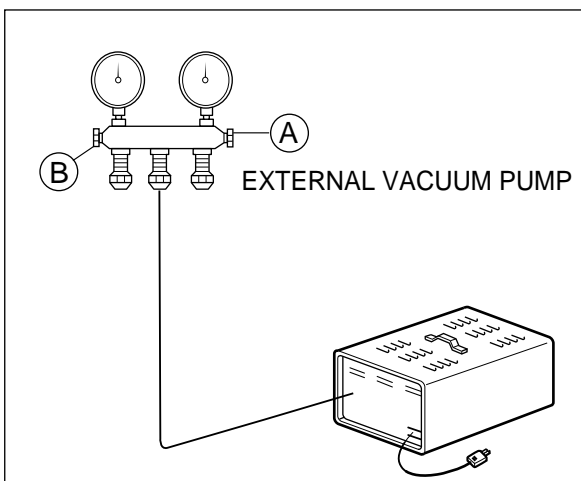

Figure 21A-Pulling Vacuum
- 6-1. Connect the vacuum pump, as illustrated in figure 21A.